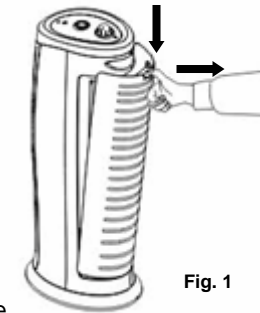

Fig. 1
1. Push down on the air intake grill locking latch and remove from the unit. (Fig. 1)